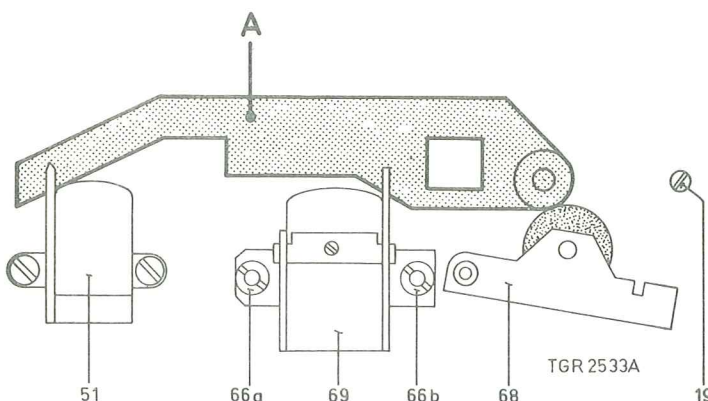

Fig. 4
Adjustment of the capstan (see Fig. 4)
For the adjustment a special jig (see A in Fig. 4) is required.
- When the capstan is perpendicular with regard to the record/playback head and the erase head, the jig will slide exactly between the tape guides of the above-mentioned heads. If this is not the case (the capstan is not perpendicular), the capstan can be adjusted with screw 19 (see Fig. 4).
Adjustment of record/playback head 69 (see Fig. 4)
For this adjustment, too, the especial jig is used (see A in Fig. 4).